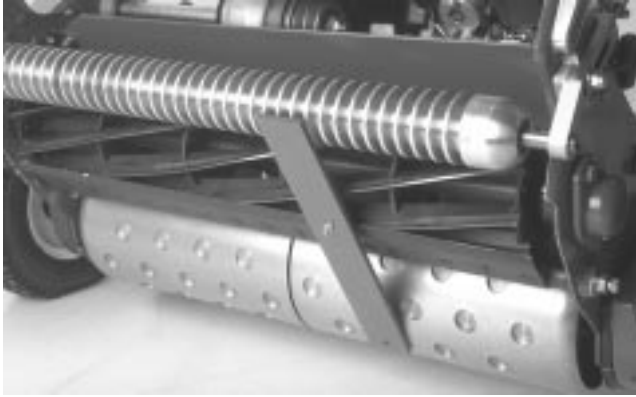

Figure 15
- Hook the screw head on the cutting edge of the bedknife and rest the rear end of the bar on the rear roller (Fig. 15).